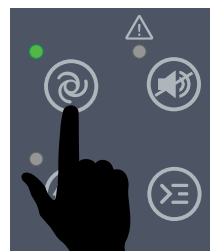

Figure 114. Auto Mode Button
2. Press the **Auto Mode button** (Figure 114) on the digital controller. The **green LED** next to the button will light up, and the status message **ISLAND AUTO** will appear on the screen.